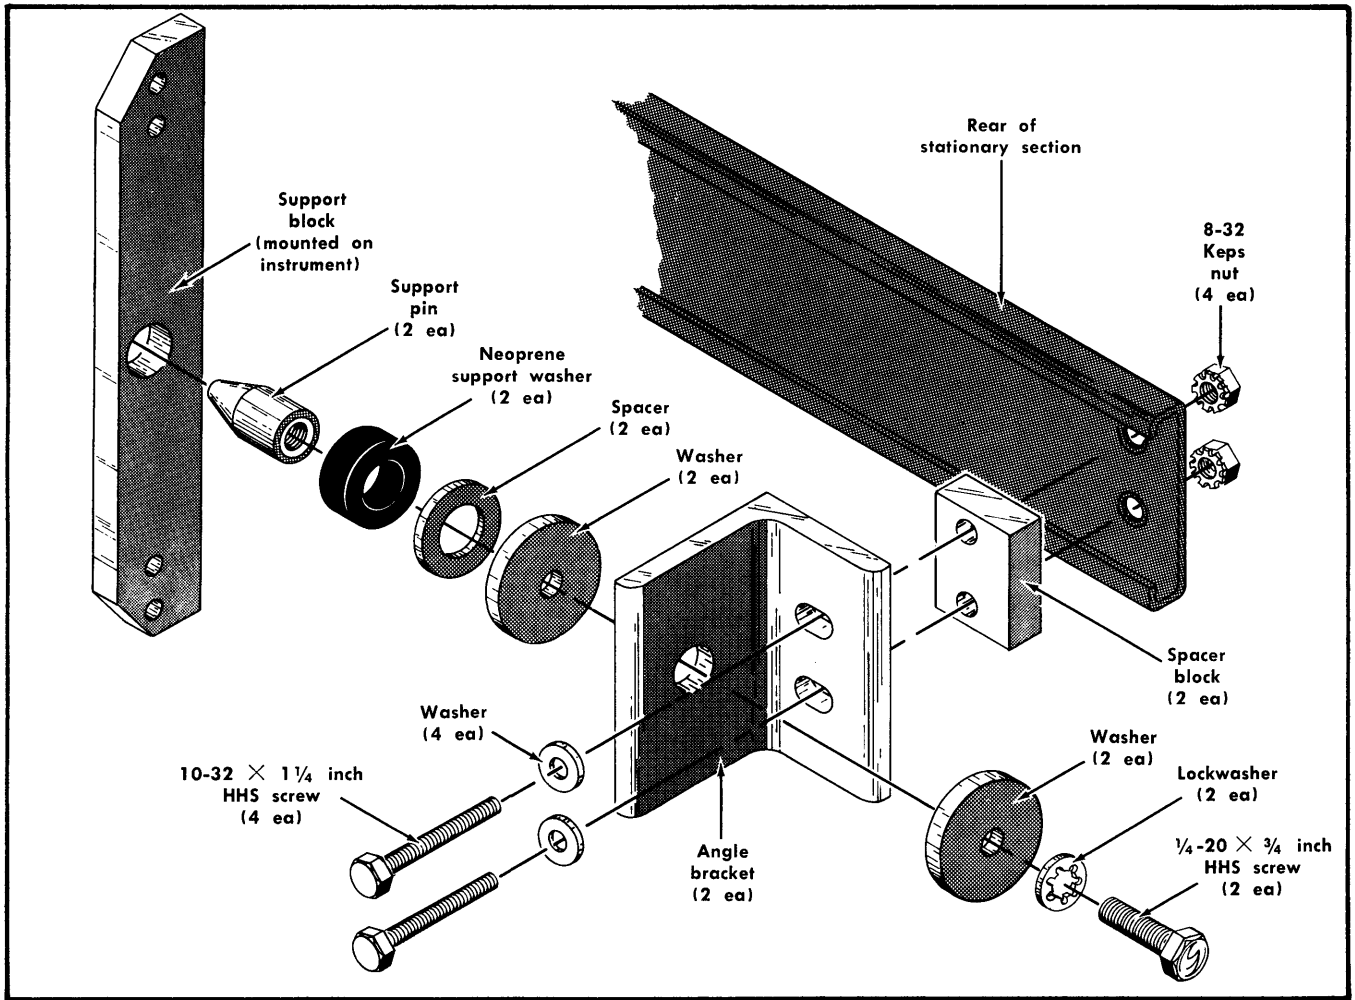

Fig. 6-7. Rear Support kit.
3. Attach an angle bracket to both rear rails of the rack through the spacer block, stationary section and into the rear rail of the rack. Note that the holes in the spacer block are not centered. Be sure to mount the block with the narrow edge toward the front of the rack; otherwise, the instrument may not slide all the way into the rack. Do not tighten the mounting screws. Fig. 6-7 shows the parts in the rear support kit and the order in which they are assembled.
4. Assemble the support pin to the angle bracket in the order shown in Fig. 6-7. Leave the spacer (washer) off, but install the neoprene washer.